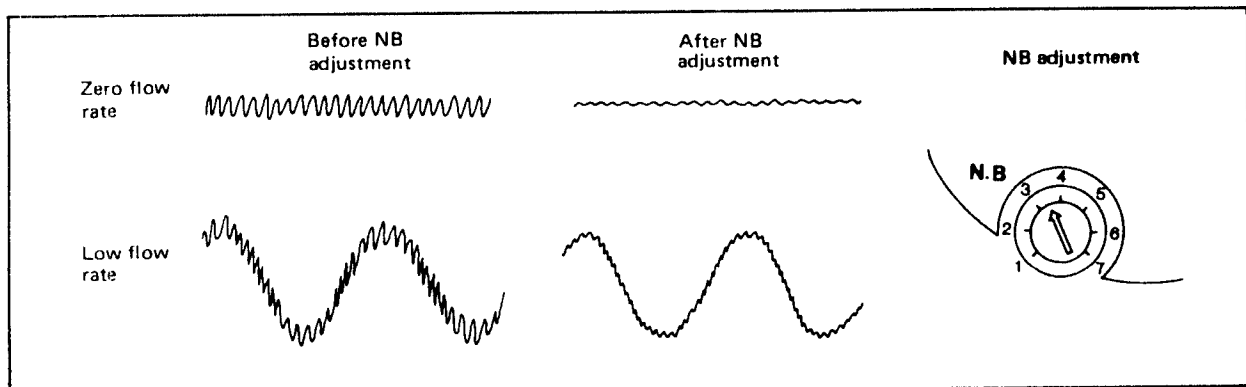

Figure 6-2. NB Adjustment.
- Use an oscilloscope to observe the signal waveform between terminals TP2 and COM2 (common). The best and also easiest adjustment can be performed when no fluid is flowing. However, if the fluid cannot be stopped, the best adjustment can be obtained from fluid velocity up to 0.5 m/s (1.6 ft/s) for liquid or up to 8 m/s (26 ft/s) for gas and steam. Adjust NB until the noise waveform between TP2 and COM2 is as shown in Figure 6-2.
- Usually, NB adjustment is set to 3 to 4 as shown in Figure 6-2.